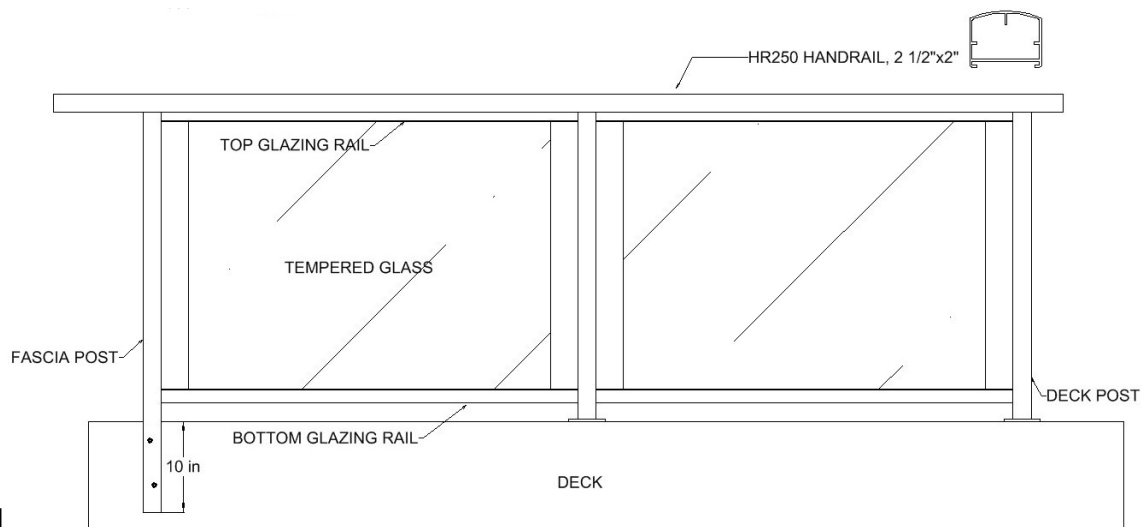

Fig 1
2. **Examine Fig. 1 and 2 below** noting the location of parts and dimensions. Determine and mark locations of posts. Trim posts if needed, the total lengths should be: **42"H**: Deck post: 40 1/4"; Fascia post: 50 1/4". **36"H**: Deck post: 34 1/4"; Fascia post: 44 1/4"